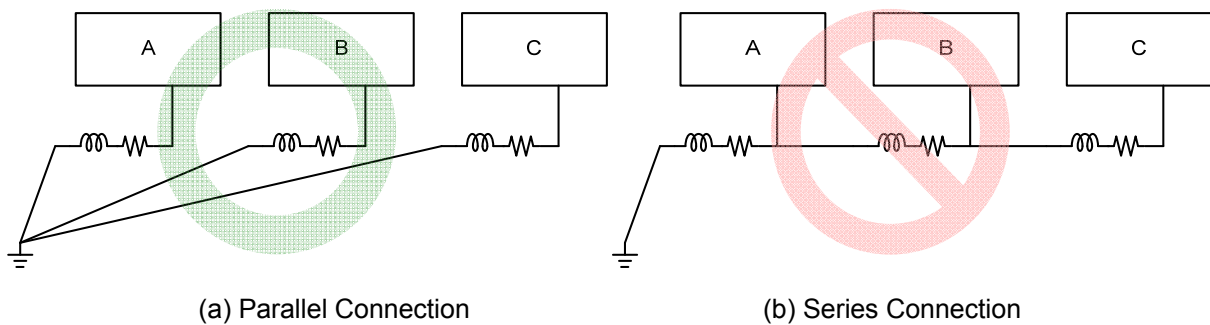

Fig.27 Single-point grounding methods
6. When several LED modules work in parallel, the single-point grounding in parallel is recommended to prevent the interference to each others. Fig.27(a) shows the connection and the ground traces should be short and wide. The PCB layout of a multi-module application is shown in Fig.28.